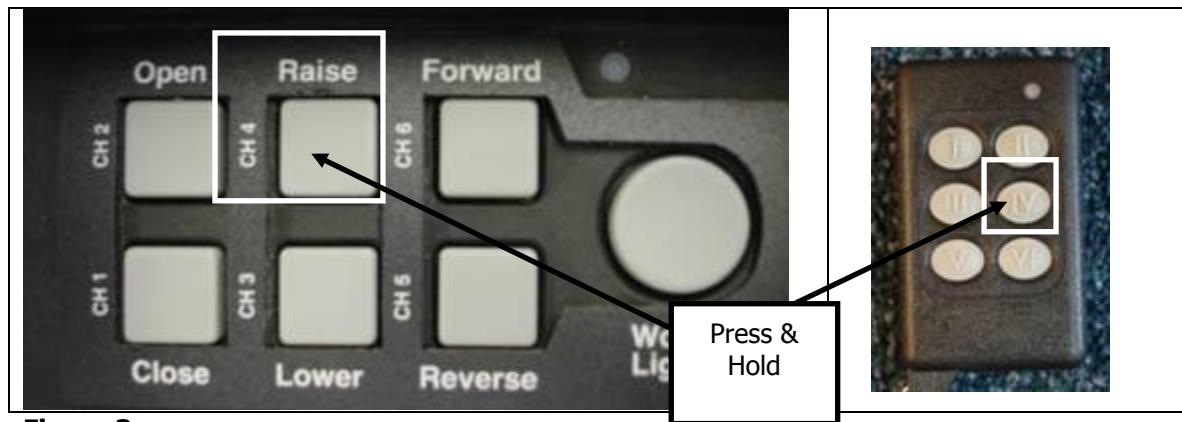

Figure 3
3) If you have an adjustable tower raise tower as high as possible to keep tarp from dragging on the load in the container. To raise tower press & hold button 4 on the control box or the key fob (see Fig. 3). On non remote control systems there will be a manual valve to operate you tower.